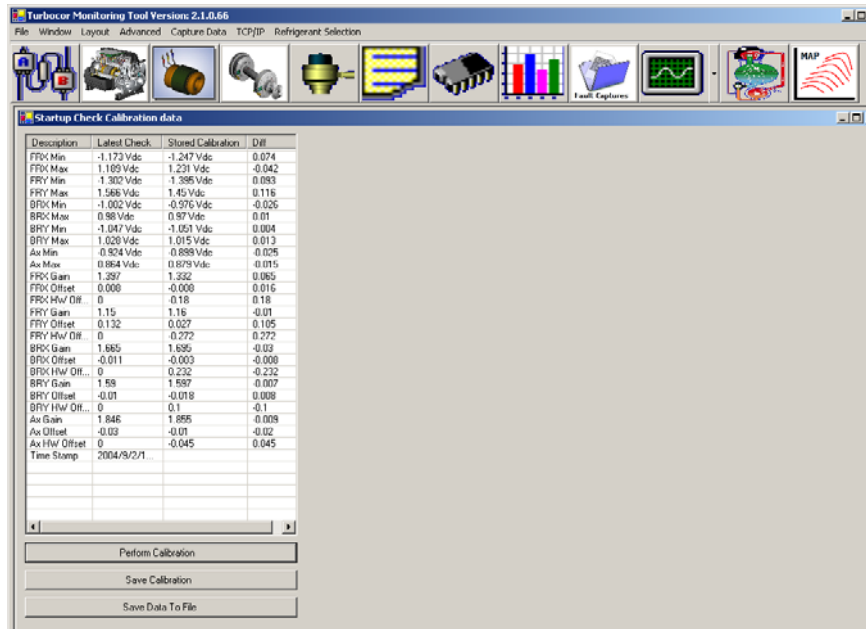

Figure 20 Bearing Calibration Window
5. From the menu bar, select “Advanced”→ “Bearing Calibration”. The “Startup Check Calibration Data” window appears, as shown in Figure 20.